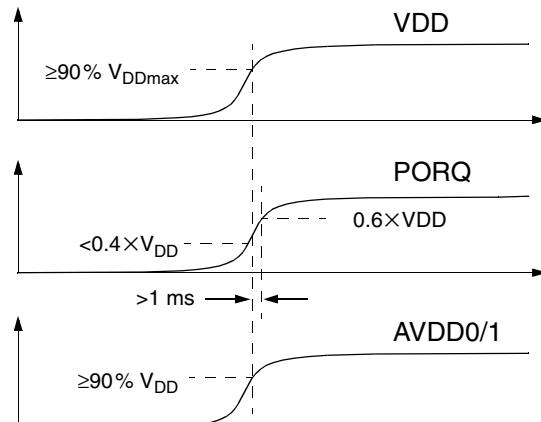

Fig. 4–2: Electrical power-up sequence
2. Release PORQ from 0 to V_{DD} . See Fig. 4–2.
3. Follow the logical power-up sequence in Fig. 4–3.